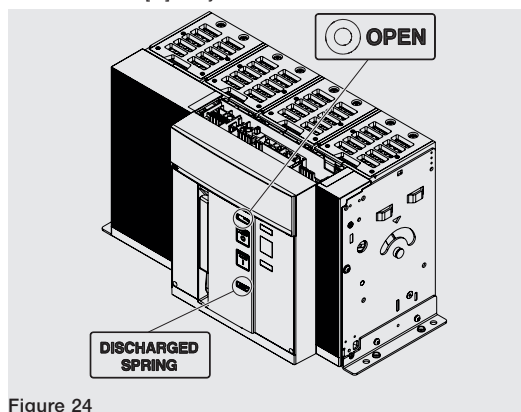

Figure 24
1. Check that the circuit-breaker is open (open / closed indicator "O - OPEN"), and check that the springs are discharged (spring signalling device "white - DISCHARGED SPRING") as indicated in Figure 24.